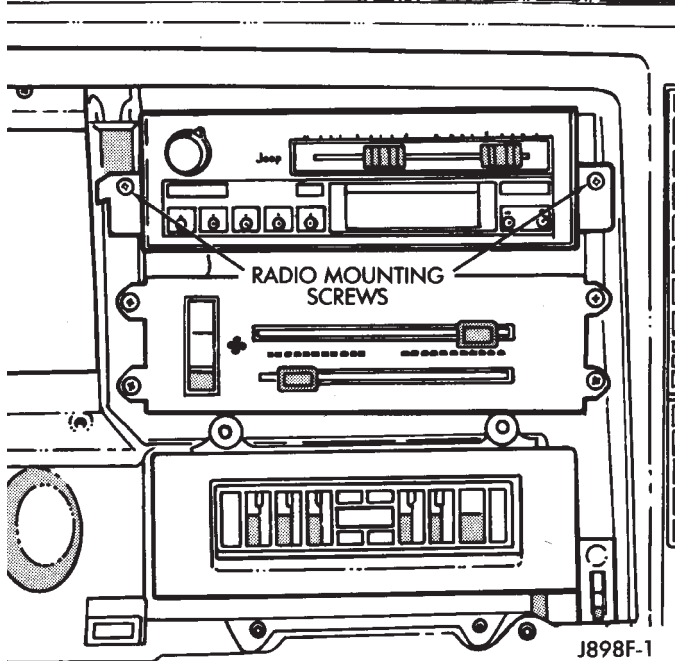

Fig. 2 Radio Mounting Screws
- (3) Remove the radio attaching screws (Fig. 2).